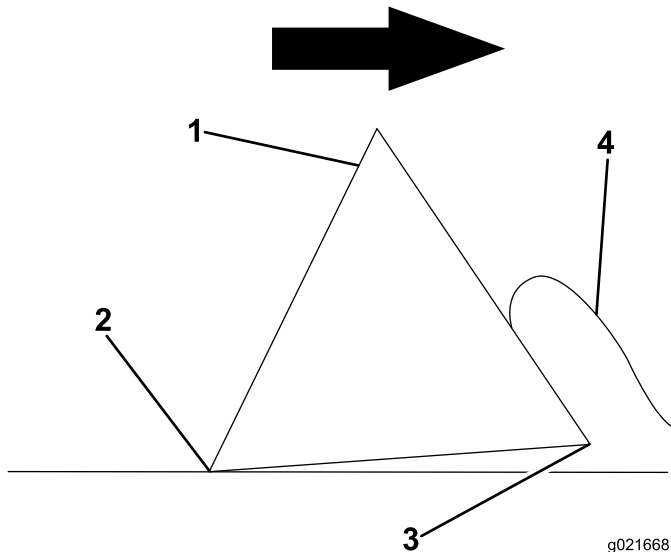

Figure 22
5. Pull the screed in a slow, steady motion along the concrete while walking backward. Raise the leading edge of screed board to allow for compaction; refer to Figure 22.
6. Allow for about 2.5 cm (1 inch) of concrete to buildup in front of screed board; refer to Figure 22. This is very important as it keeps the trailing edge on grade.